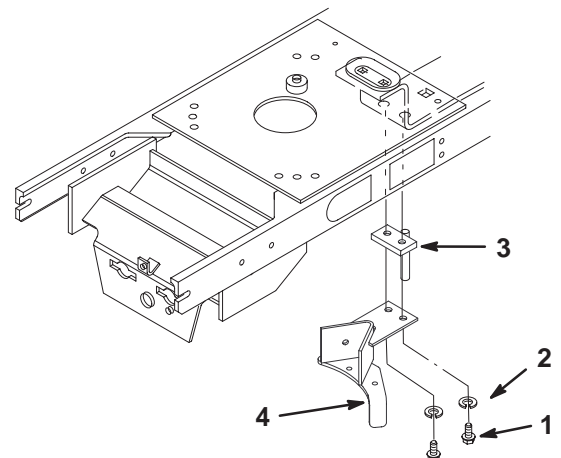

Figure 6
4. Remove the clutch stop from the frame of the machine (Fig. 6).
5. Install the new shim/upstop and clutch stop to the frame with 2 bolts (5/16 x 1-1/2 in.) and 2 lockwashers (Fig. 6).